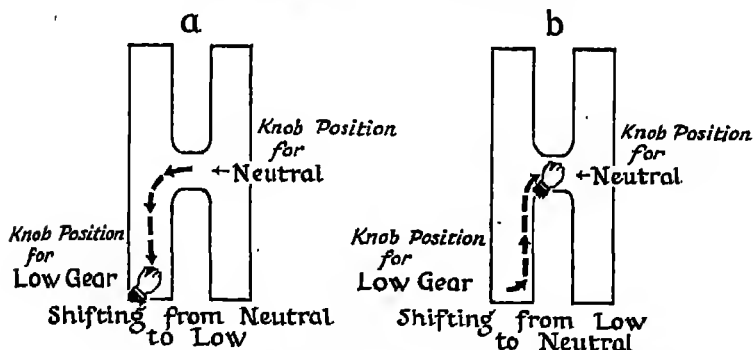
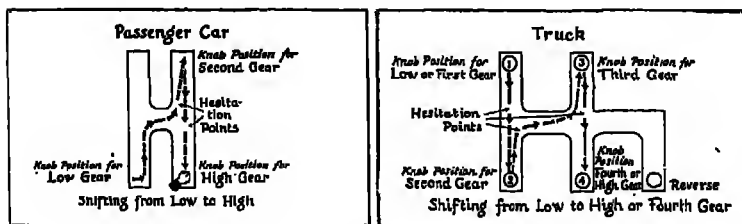

FIG. 170. Practice making these shifts until you no longer have to *think* out what you are doing.
FIG. 174. Use all forward gears when starting a motor vehicle from rest.
The direction is shown by the dotted line in Fig. 170 (a). On trucks, the gear positions are different because there are four or more forward gears. See Fig. 174.
- d. Shift the gears to neutral, following the dotted line shown in Fig. 170 (b). Keep the gear-shift lever in the neutral position until you are ready to start again. This practice is recommended at all times and is especially important at traffic lights, stop signs, and places where there are pedestrians.
The process of shifting the gears all the way from low to high, for both passenger cars and for trucks with four forward gears, is summarized and diagrammed in Fig. 174. Study the position of the hesitation points. Hesitating at these points will help you make shifting smooth.